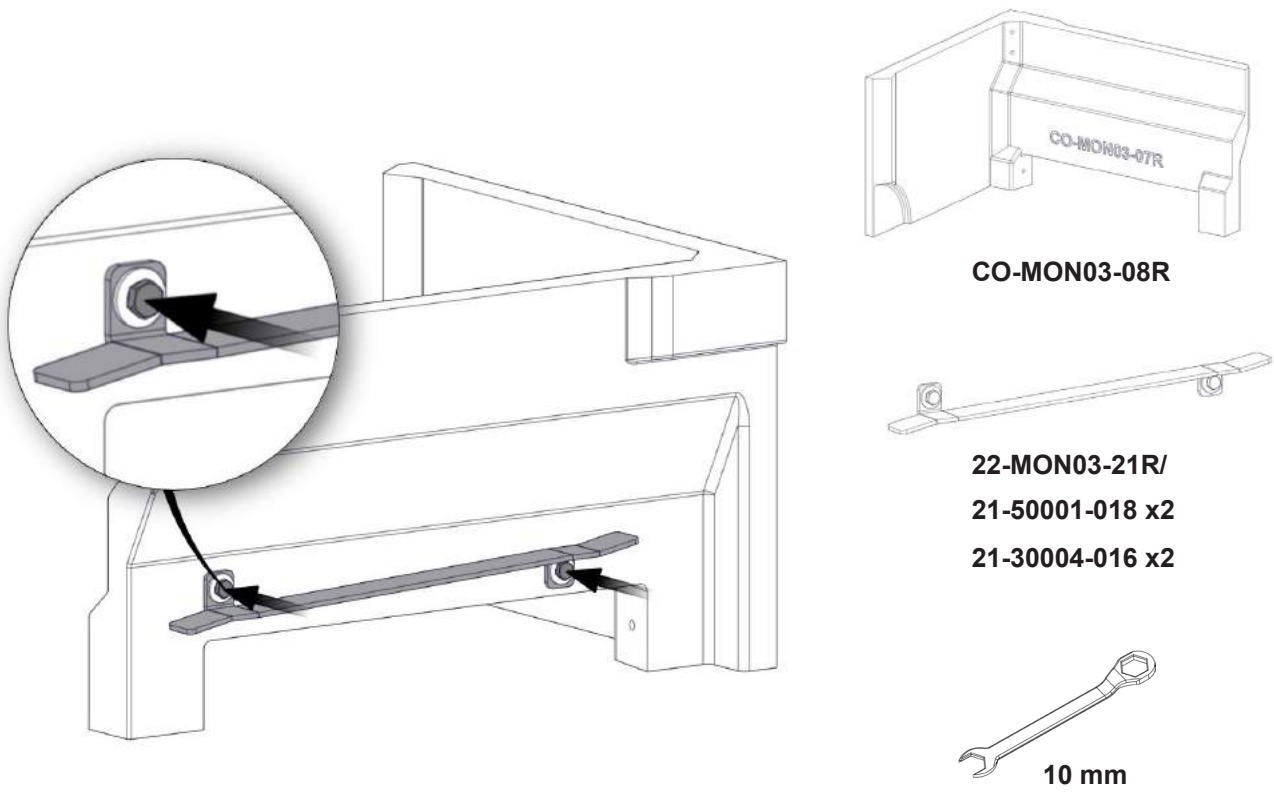

**FIG 10**
**FIG 10 a** Monaco A Low Base\_Q-34 AR